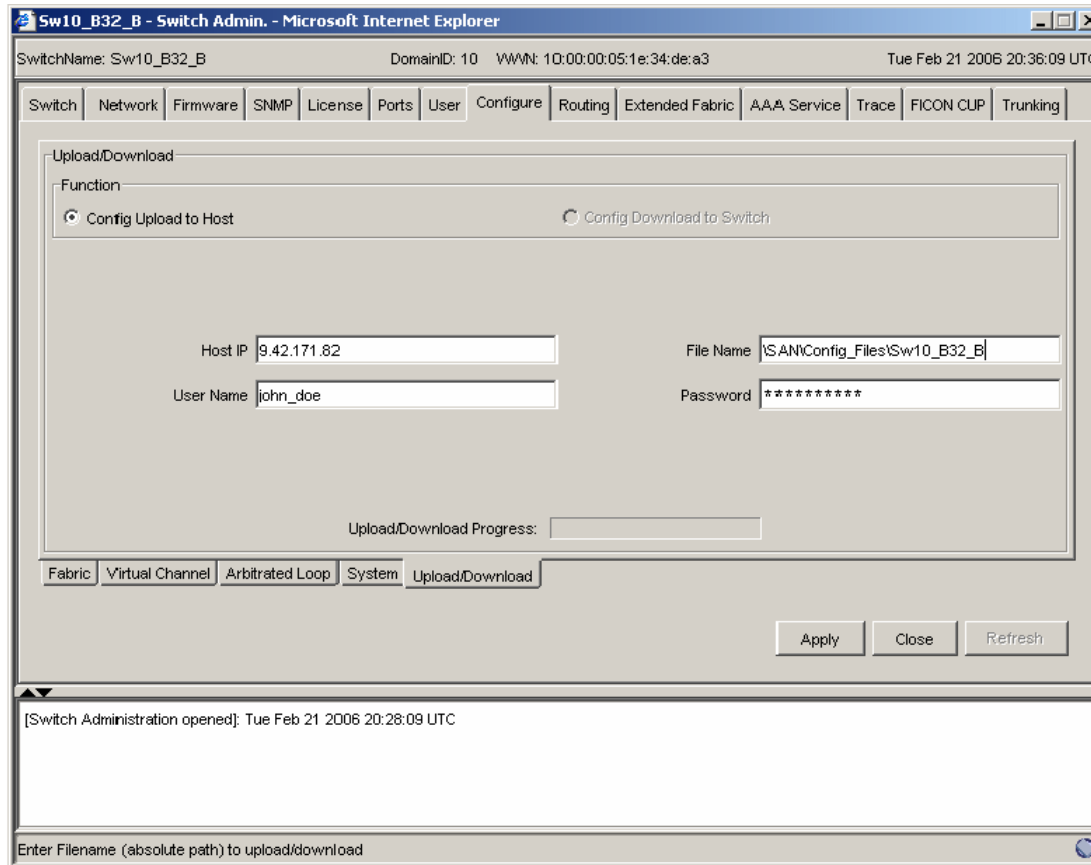

Figure 5-33 Downloading Switch configuration
- e. Print a copy of the switch configDownload file (see Figure 5-33).